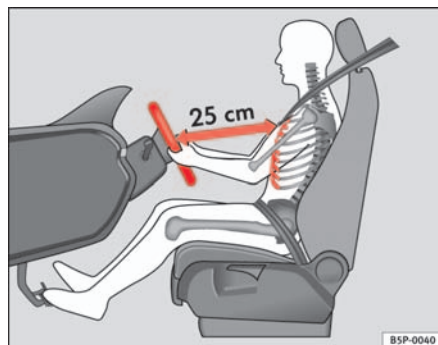

Fig. 92 Proper sitting position for driver
- Adjust the steering wheel in this way until the correct position is set ⇒ fig. 92.
- Adjust the driver seat or steering wheel so that there is a distance of at least 25 cm between the steering wheel and your breast bone ⇒ page 123, fig. 92. If you fail to observe the minimum distance, the airbag will not protect you. Risk of fatal injury.